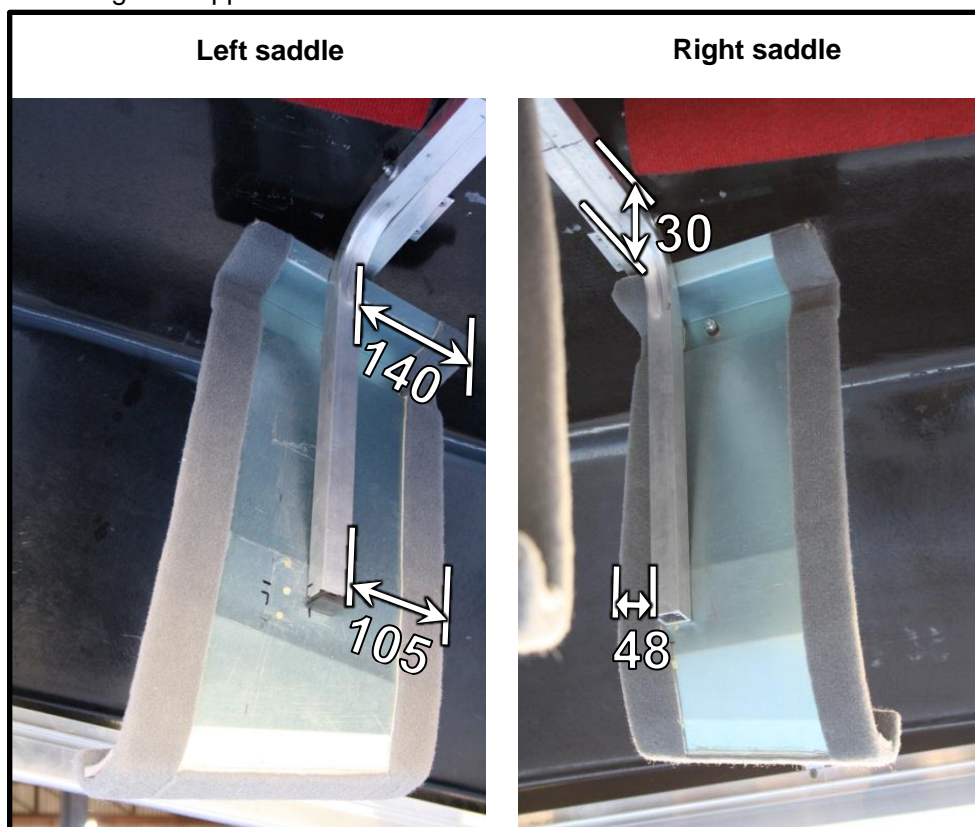

Figure 4
- 2.3. Install the removed saddles to the new U-frame as illustrated in Figure 4.